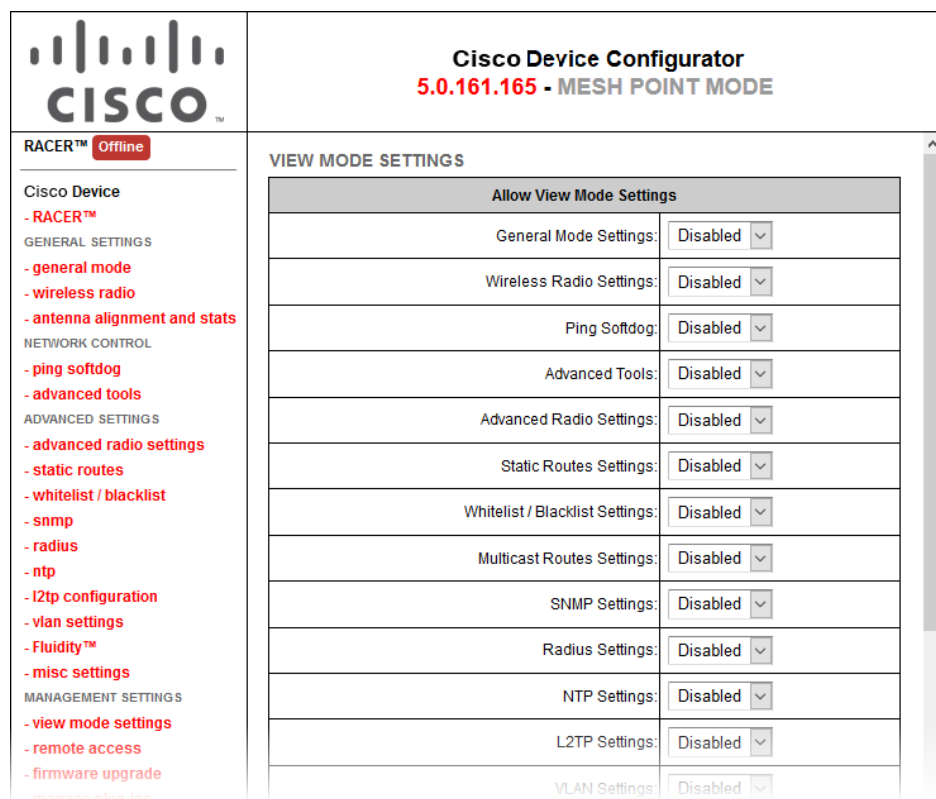

Figure 53. Configurator GUI (VIEW MODE SETTINGS dialog)
2. Click the **-view mode settings** link under **MANAGEMENT SETTINGS** in the left-hand settings menu (Figure 53 \(page 133\)).